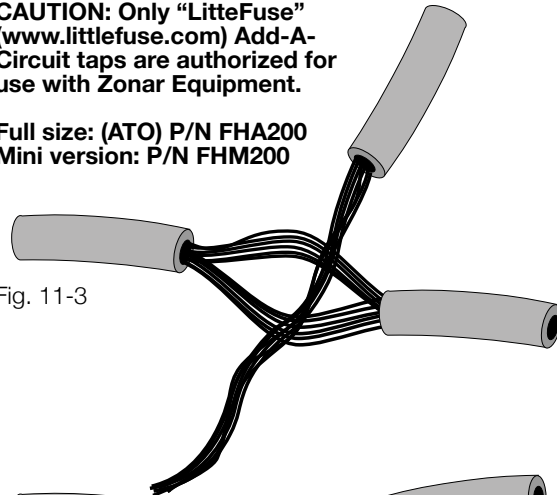

Fig. 11-3
- B. Strip 1" to 1 1/2" of insulation from the wire in the fused link to be installed. See Fig. 11-3